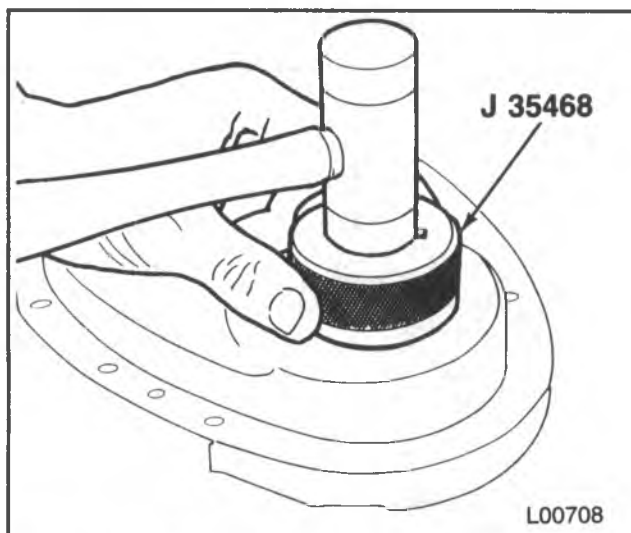

Figure 19 — Installing the Front Crankshaft Oil Seal
Install or Connect (Figure 19)
1. Front crankshaft oil seal using J 35468 (figure 19). The open end of the seal faces inside the engine. Coat the seal lips with engine oil.